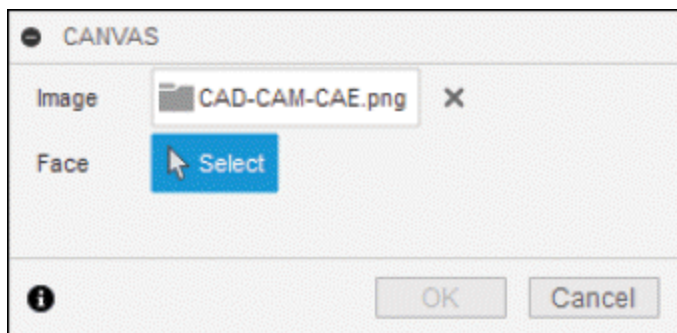

Figure-12. CANVAS dialog box
- Select desired image from the dialog box and import as discussed earlier. The **CANVAS** dialog box will be displayed with the image inserted; refer to Figure-12.